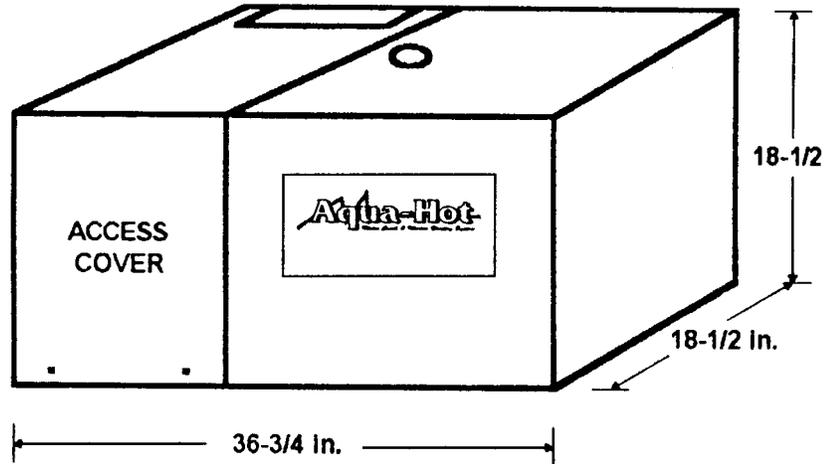

Figure 3
- D. Once the Aqua-Hot has been permanently mounted remove the access cover, see Figure 3.